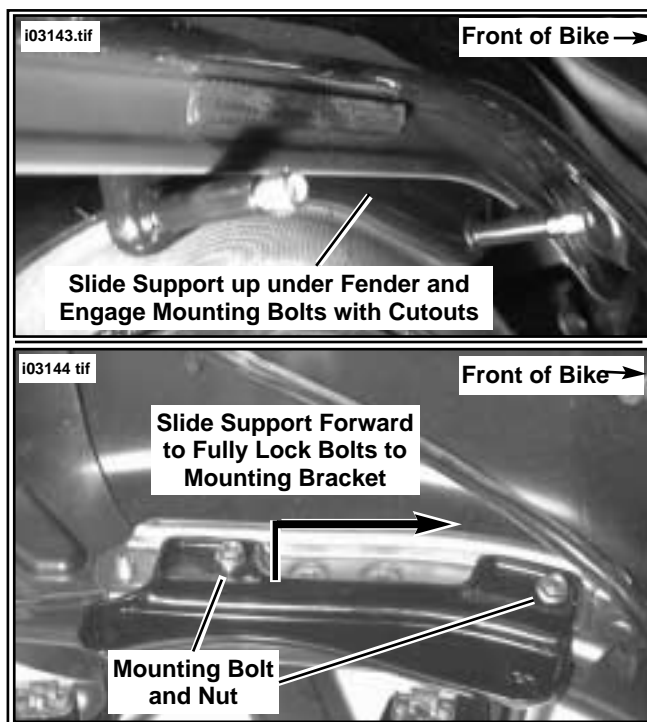

Figure 19. Slide Support Fully Forward (left shown)
Figure 18 and lower portion of Figure 19 are provided for illustration purposes only. It is not necessary to remove fender for the following procedures.
4. See Figure 18 and 19. Slide support (right side shown in upper portion of Figure, left side shown from underneath in lower portion of Figure.) up under fender as shown. While aligning rails on support with rails on mounting bracket, engage rounded head of mounting bolt with rounded portion of bracket cutouts (See lower portion of Figure 19). The following techniques may prove useful in performing this Step: